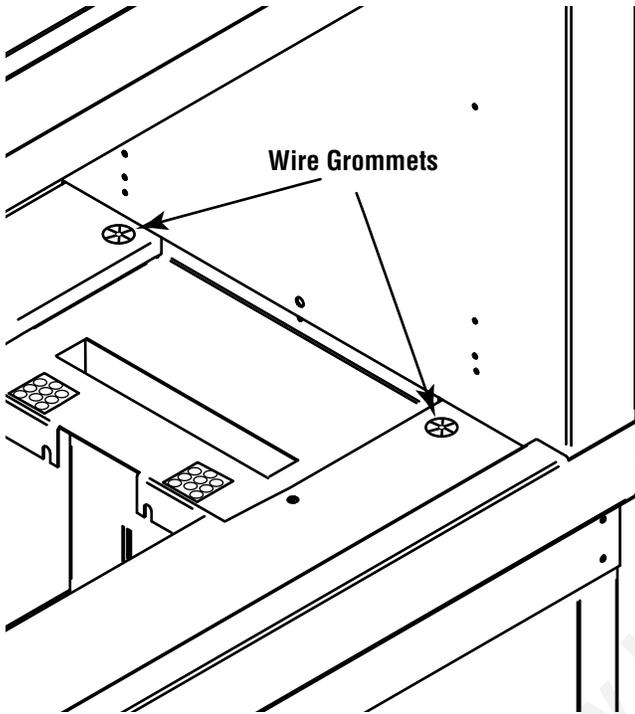
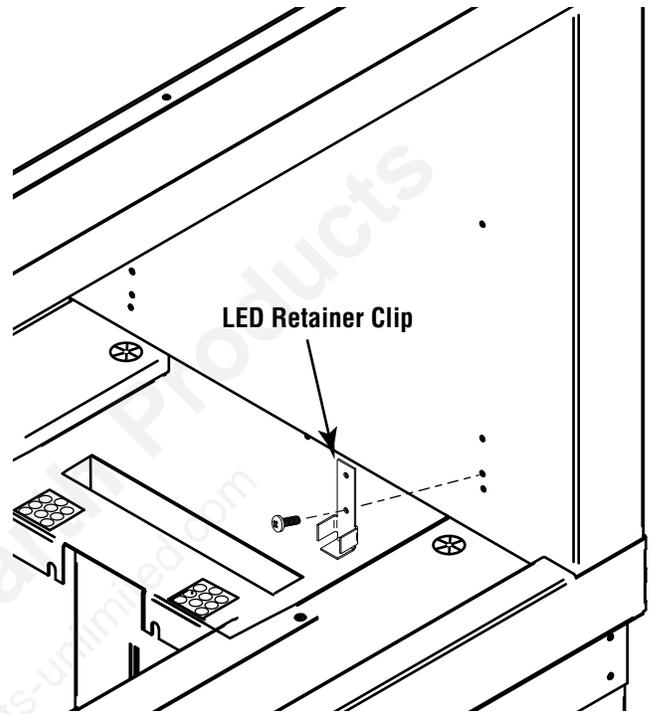

Figure 17 - Locating wire grommets
Figure 18 - Shows clip installed on right side of fireplace
NOTE: When converting to the see-through fireplace the glass windshield clips will need to be installed. See **Figures 18 and 19 on Page 16**. The clips will be packaged with the glass windshields. The see-through fireplace requires windshields on both sides for proper operation.
Step 3: Locate the wire grommets inside the firebox. See **Figure 17**. Directly above them will be a series of mounting holes for the windshield and LED retainer clips. Prepare the fireplace by installing the LED retainer clips. The retainer clips have two holes in them. Install one (1) clip on the left and one (1) clip on the right side of the inner fireplace side wall. Install as shown in **Figure 18**.